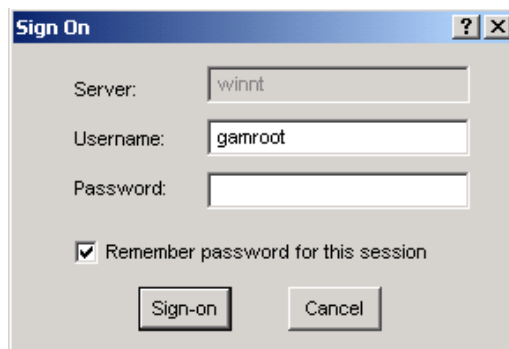

Figure 3-16. Sign On Dialog Box
- The Sign On dialog opens if you have never signed on during this session or if you did not check the Sign On dialog’s Remember password box on the previous sign on (see Figure 3-16).
3. Click the Sign-On button (see Figure 3-16).